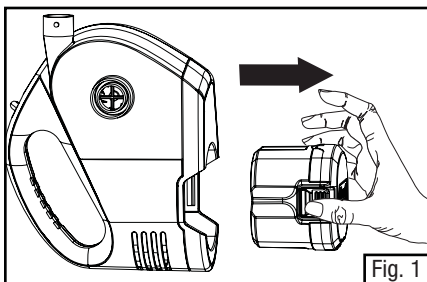

Fig. 1
1. With pump off, turn upside down and press two release tabs to remove 4D battery pack. (Fig. 1)